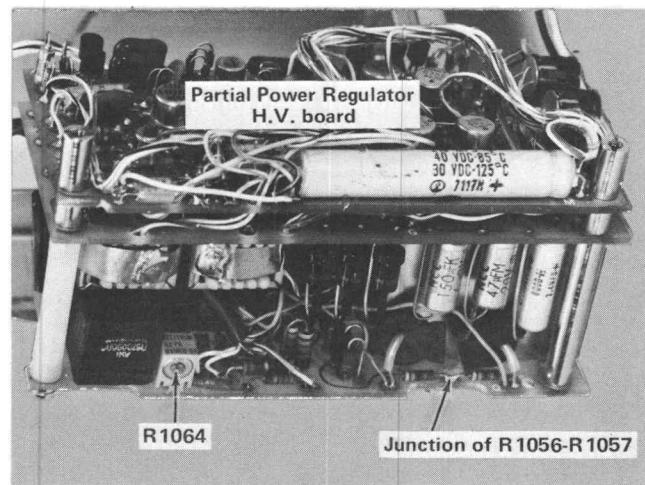

Fig. 5-8. Intensity Limit adjustment. Location of cathode current measurement point and R1064.
a. Unsolder the junction of R1056-R1057 (see Fig. 5-8) and lift the ends of the resistors clear of the circuit board. Connect the two resistor leads together and connect to the positive lead of the VOM set to read $600 \mu A$, full scale. Connect the negative lead to the point on the circuit board to which the resistors were originally connected.
c. ADJUST—R1064 (see Fig. 5-8 for location) for a meter reading of $315 \mu A$.